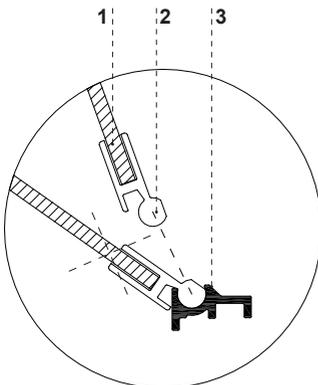

Fig.11 Removing the front window
-  While cleaning the inside, do not leave the front glass free repleated in aluminium-pressure profile. Doing so may damage the glass and is not under the warranty. The glass for the time of maintenance should be removed together with the profile. Fig.11 (p.23).